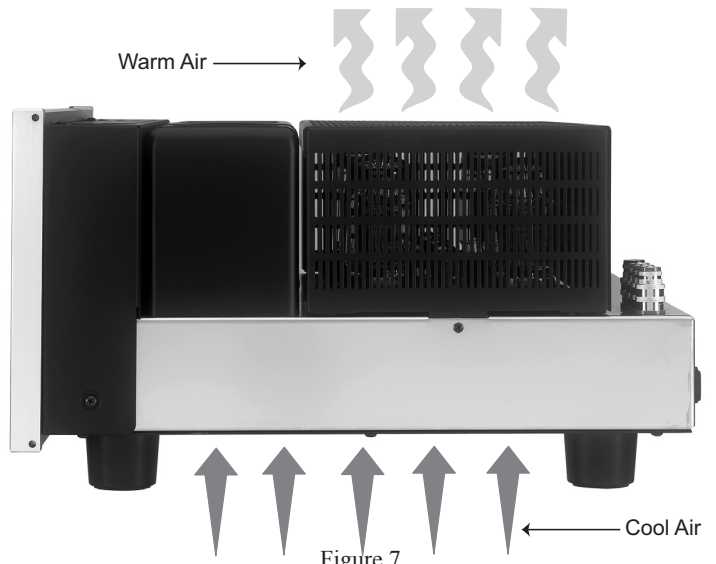

Figure 7
Adequate ventilation extends the trouble free life of the MA2275. The suggested minimum space for operating the MA2275 is 24 inches (60.96cm) in width, 20 inches (50.8cm) depth, and 22.5 inches (57.15cm) in height. Always allow air to flow through the ventilation holes on the bottom of the amplifier and a means for the warm air to escape at the top, refer to figure 7. For installation of the MA2275 into a cabinet, refer to the next page.
*Note: The use of Banana Plugs is for use in the United States and Canada only. Refer to figures 7 and 8.*